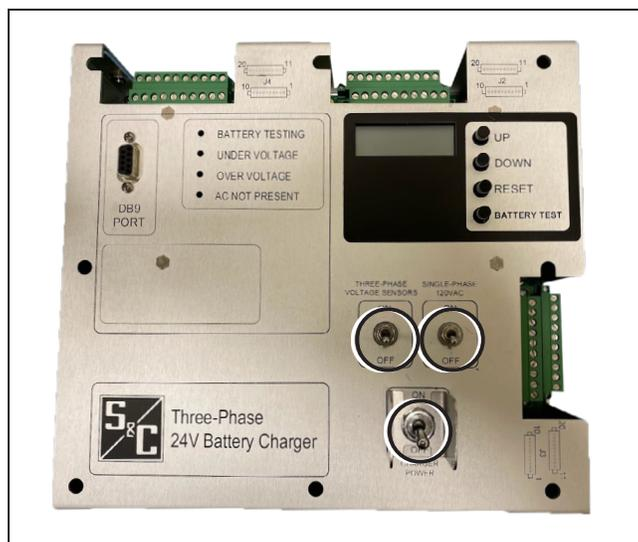

Figure 14. Switches in the Off position.
- STEP 1.** Make sure the SINGLE-PHASE 120 VAC power switch, the THREE-PHASE VOLTAGE SENSORS power switch, and the CHARGER POWER switch are in the **Off** position. See Figure 14 on page 15.